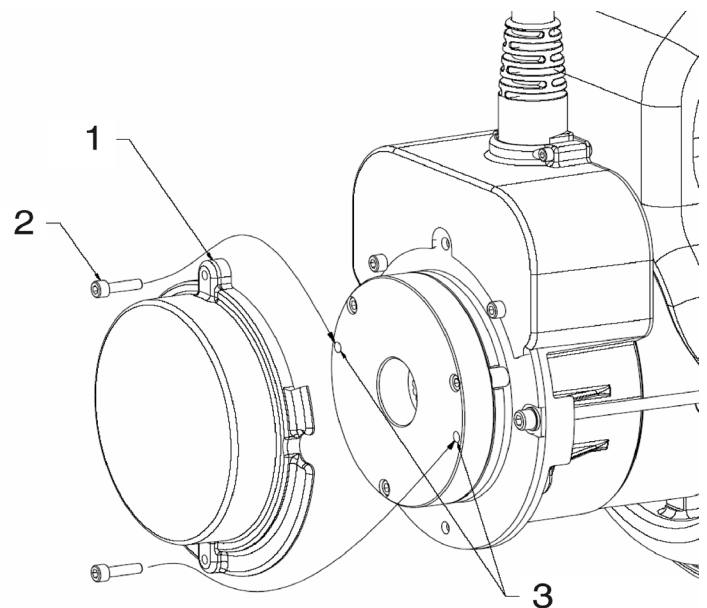

Figure 4-6. Manual Disengage
3. Remove the two **cover bolts (2)** and **brake cover (1)**.
4. Insert the **cover bolts (2)** into the two **disengage holes (3)** in the brake housing, see item 3 in Figure 4-6., Manual Disengage.
5. Tighten down the **cover bolts (2)** and the brake on that drive motor will disengage.
7. After towing is complete, chock wheels and remove **cover bolts (2)** from **disengage holes (3)**.
8. Reinstall **brake cover (1)**.